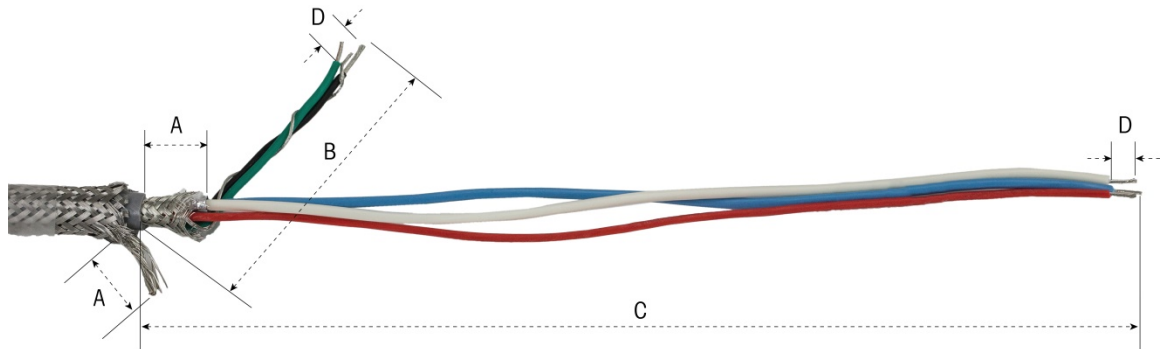

Figure 2-61: POWERCELL Cable Preparation – Panel
1. Cut and remove an appropriate length of the outer braided shield, the insulation jacket, the inner braided shield and insulation as shown in Figure 2-61 and Table 2-7.